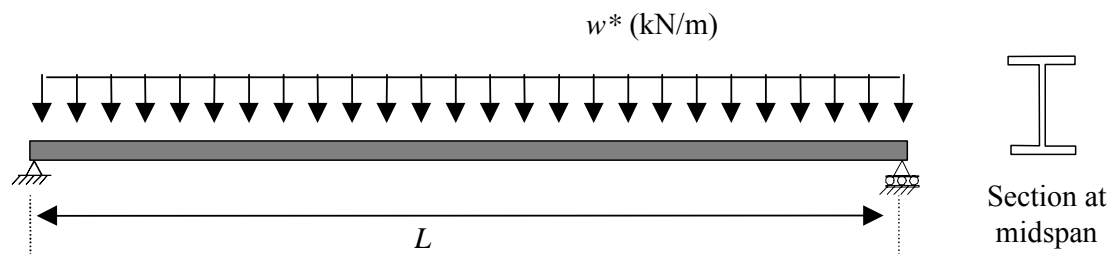

Figure 2: Simply Supported Beam Under Uniformly Distributed Load
- b) A simply supported beam of length $L = 7$ m is constructed from an 410UB59.7 section in Grade 300 steel, and is subjected to a uniformly distributed design load of w , as illustrated in Figure 2. The load acts vertically downwards on the top flange of the beam.